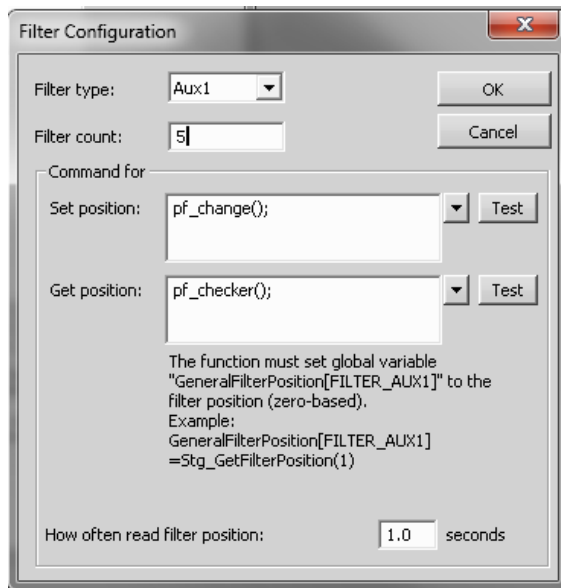

Figure 6 - Note the "Set" and "get" command strings
17. In the “Set Position” and “Get Position” boxes, type in the following text, (refer to figure 6 below)